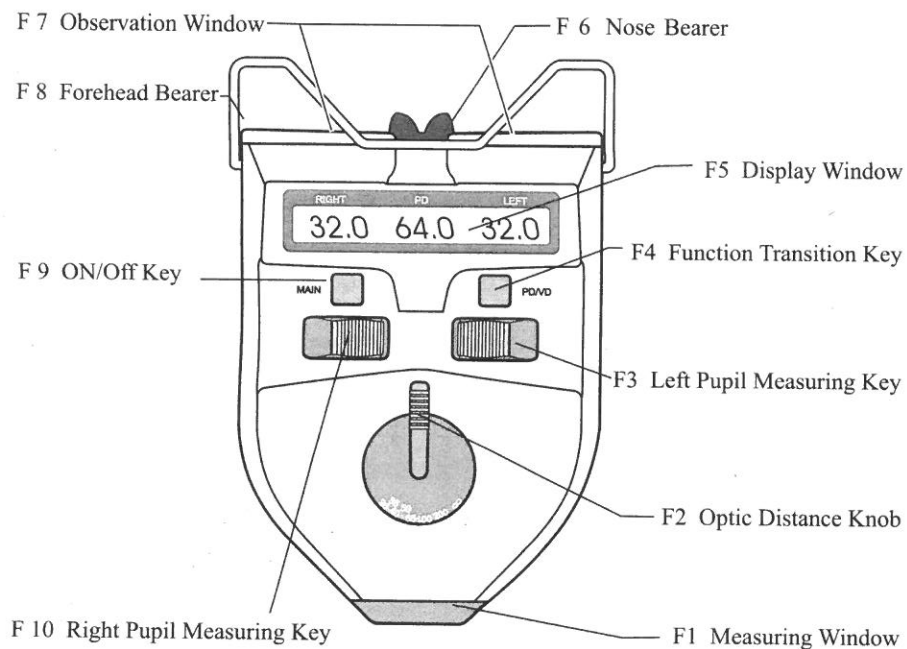

Fig.1
#### 3.1 Description of the Front Panel (as shown in Fig.1)
**4.3.5** In order to measure the pupillary distance at different optic distances, please turn the Optic Distance Knob(as shown in Fig.1 NO.2) to your optic distances first and then make your measurement. This device sets some different optic distance locations such as 30cm, 35cm, 40cm, 50cm, 65cm, 1m, 2m and  $\infty$ .